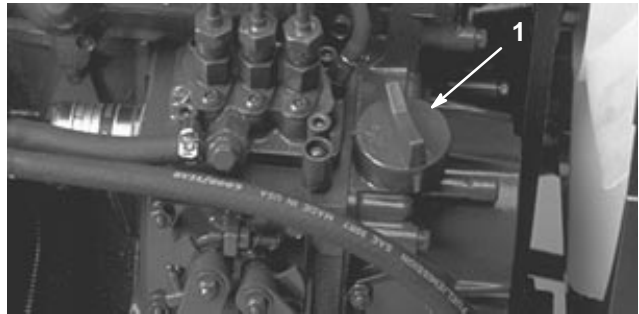

Figure 16
3. If the oil level is low, remove the oil fill cap (Fig. 16) and gradually add small quantities of oil, checking the level frequently, until the level reaches the FULL mark on the dipstick.